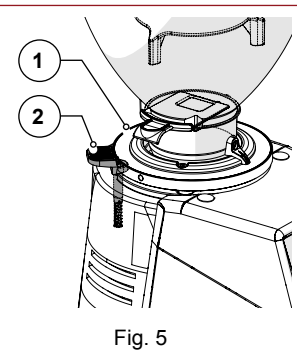

Fig. 5
- **Safety adjustment disk lock lever (Fig. 5)**